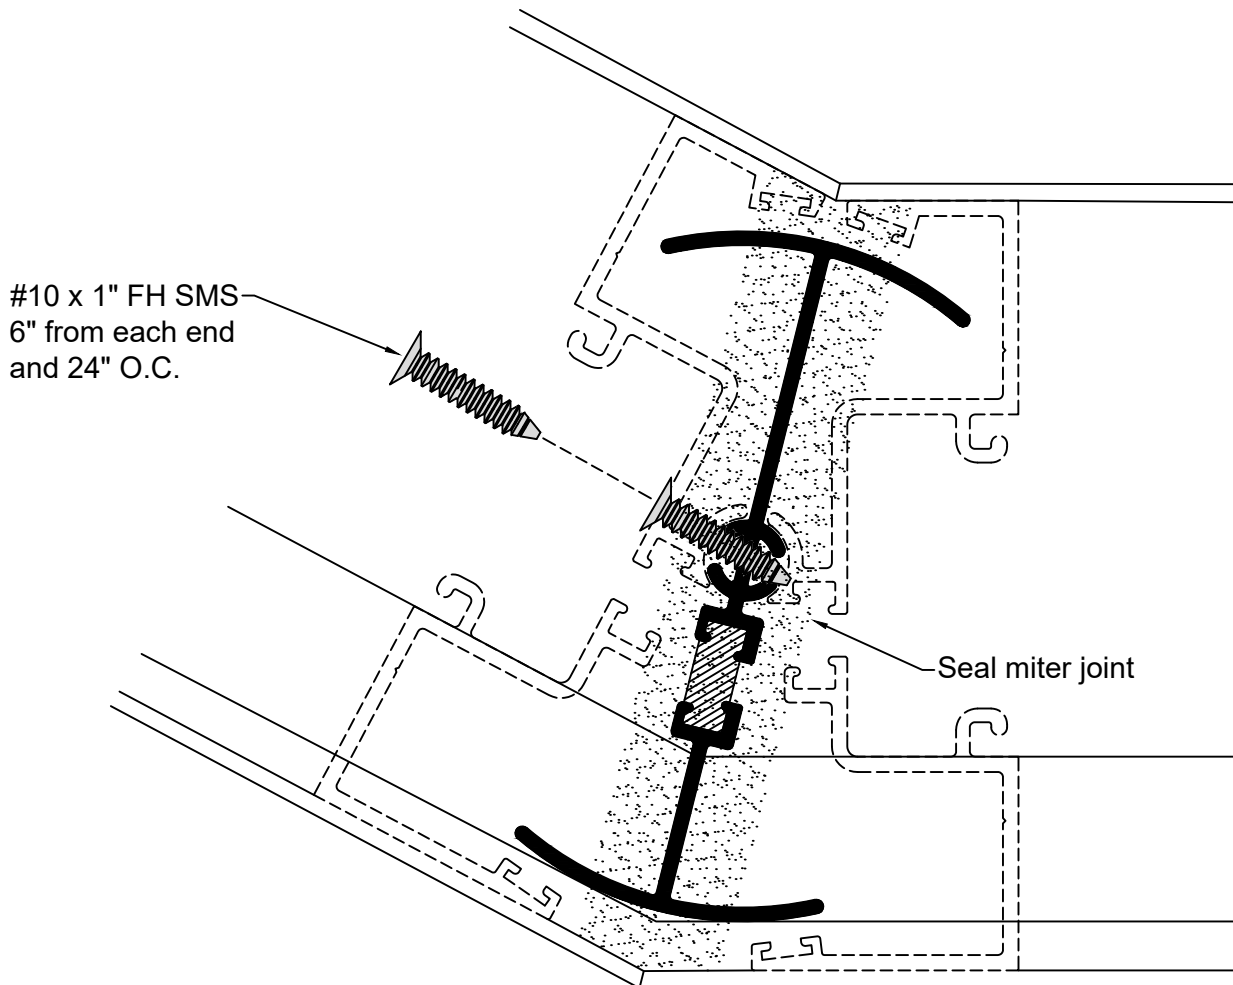

Fig.53.1
- D. Once frame units are installed and in position, drill and countersink for #10 F.H. screw 6" from end and 24" on center. See **Fig. 53.1**.